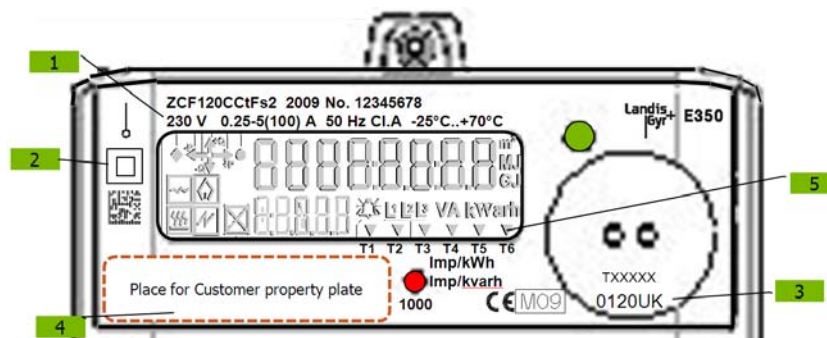

Fig. 3.2 Basic layout of face plate
- 6 Front cover (face plate with laser marking, for details see Fig. 3.2)